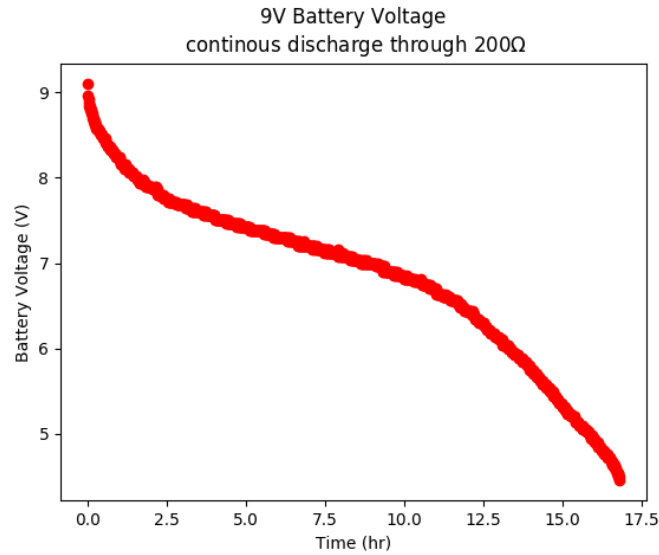

Figure 2: Continuous discharge of a Energizer Industrial 9V battery into a 200Ω resistance.
- Once complete make a plot of the battery voltage vs time which is related to the data you took. Properly label the plot axes etc. How long does it take for the 9V battery to discharge to 4.8V in this circuit? Your data should be similar to Figure 2.